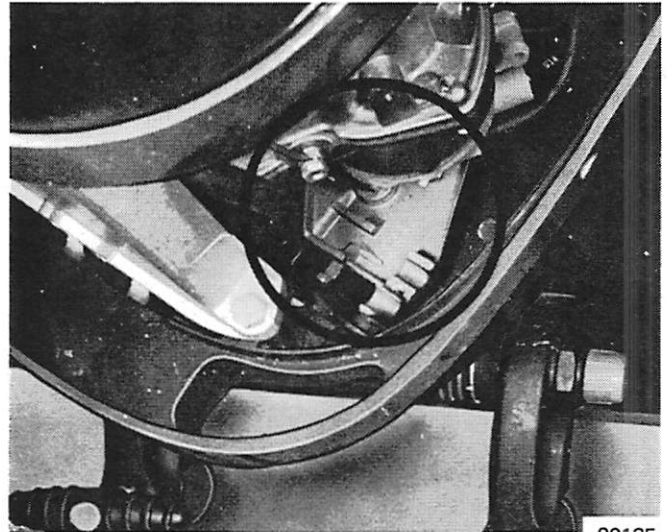

Figure 3. Anchor Pin Assemblies Removed
2. Remove screw, which fastens anchor pin assemblies to bracket, and remove anchor pin assemblies. (Figure 3)